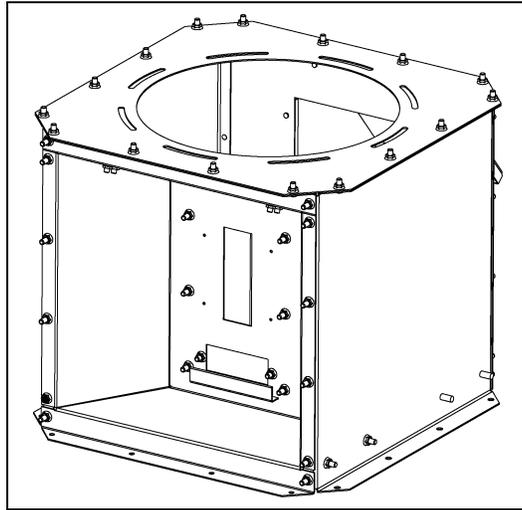
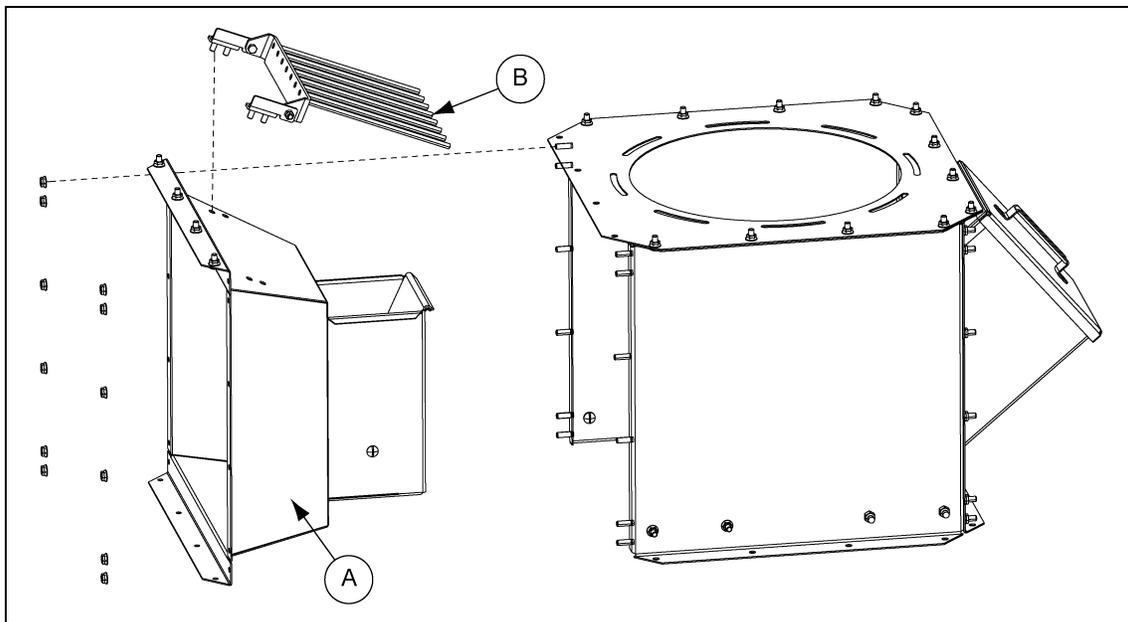

Figure 2A Moisture Sensor Removed
Figure 2B Front Panel and Finger Guard Removed
1. Remove the moisture sensor from the front panel. *(See Figure 2A.)*
2. Remove the existing front panel (A) from the moisture sampler assembly.
3. Remove the finger guard (B) from the front panel (A). *(See Figure 2B.)*